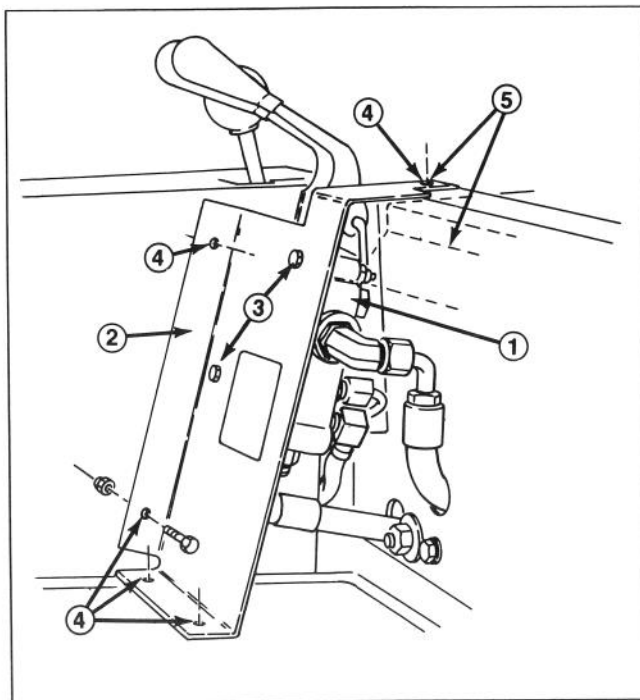

Figure 11
24. Use the two lock nuts and capscrews to secure the new two lever wing lift valve to the mounting plate (Fig. 11).
26. Use the two lever valve mounting bracket as a template to drill five 9/32 inch holes in traction unit (Fig. 11).
Put metal plate under future position of top hole, while drilling, to prevent drill bit from accidentally puncturing fuel tank. Refer to Fig. 11.
23. Use the two lock nuts and capscrews to secure the new "two lever" wing lift valve to the mounting plate (Fig. 11).
24. Use the two lever valve mounting bracket as a template to drill five 9/32 inch holes in traction unit (Fig. 11).